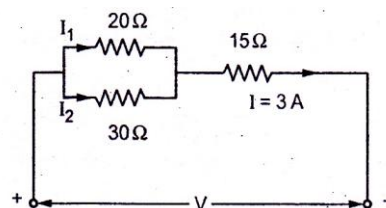

Fig. 2
- Find : i) Current in  $20\ \Omega$  and  $30\ \Omega$  resistors ii) The voltage across the whole circuit iii) The total power and power consumed in all resistors. (8)
**Sol. :** The arrangement is shown in the Fig. 2.